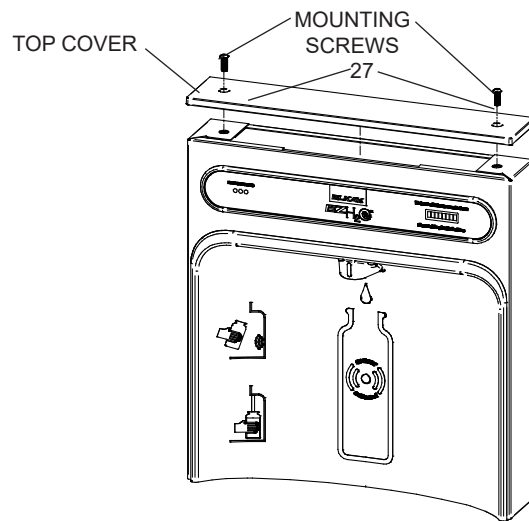

Fig. 5
- 1) **Remove two (2) mounting screws** with 5/32" Allen wrench holding top cover to Bottle Filler (See Fig. 5). Remove top cover. Note do not discard mounting screws, they will be needed to reinstall top cover.
- 9) **Once Bottle Filler is installed on wall plate tabs,** water line, wire(s) and power cord are installed properly, push top of Bottle Filler toward wall and line up top cover two (2) holes.
- 10) **Reinstall Top Cover on Bottle Filler** (See Fig. 5) with two mounting screws from step 1 above. Caution, do not over tighten screws.